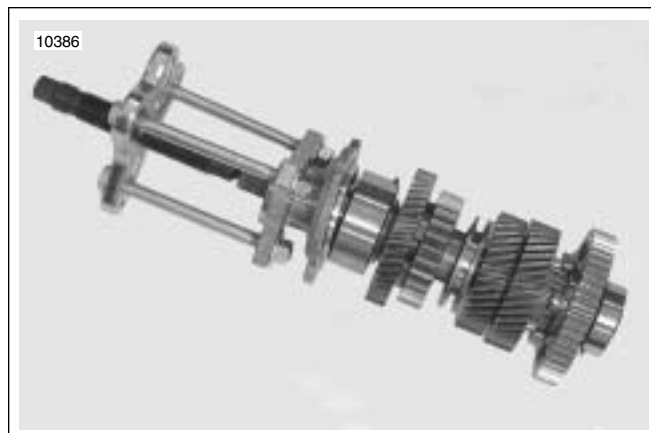

Figure 7-6. Removing Output Drive Flange
3. See Figure 7-6. Obtain three 3/8 x5 inch bolts with washers and nuts and install a Metric Bolt Grip Puller Set (Snap-on Part No. CJ2001) onto the flange and shaft. Remove output shaft drive flange and seal retainer.